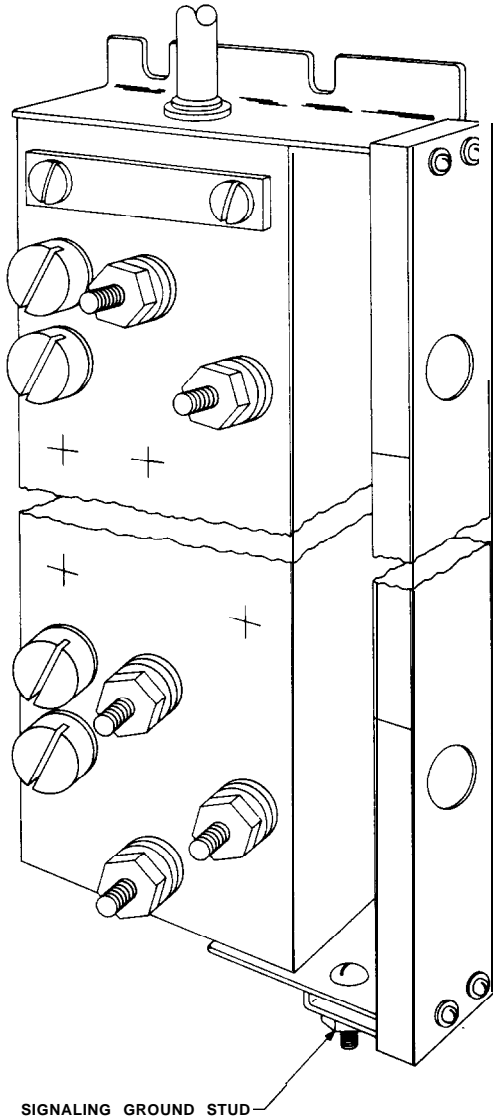
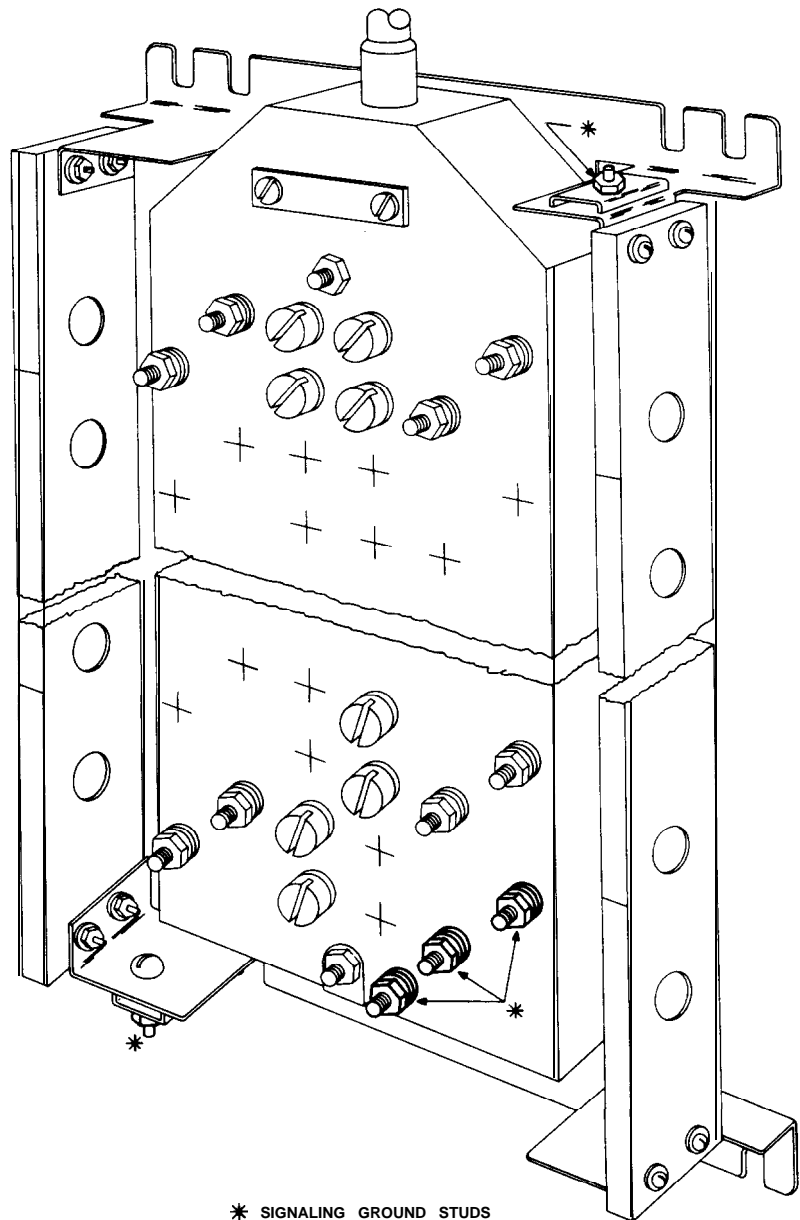

Fig. 15 -The 1A4A Terminal Block Showing Signaling Ground Stud
Fig. 16 -The 1 A4A-51 Cable Terminal ▶
9.02 Signaling grounds on 1A4A (10-, 16-, and 26-pair terminal blocks) may be obtained from ground screw on fanning strip bracket shown in the lower right-hand corner of Fig. 15. Three additional ground lugs are provided on 51-pair terminal block, see Fig. 16.